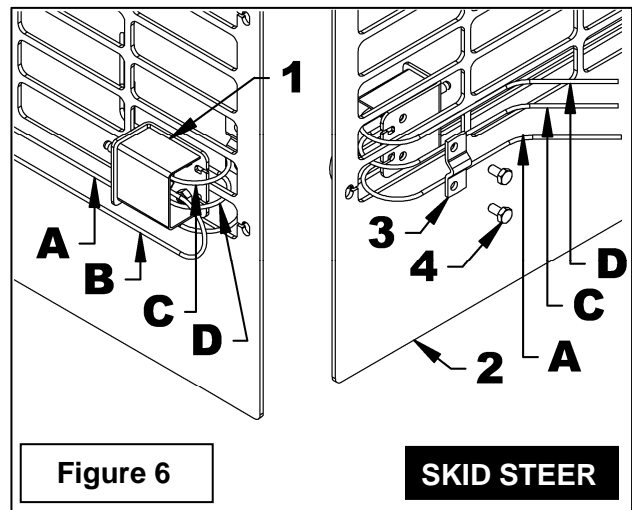

Figure 6
2. **Figure 6:** Place the switchbox (item 1) on the vehicle's protection grill (item 2) in a comfortable working position. Fasten in place with the switchbox clamp (item 3) and two 1/4"NC x 1/2" hex bolts (item 4).